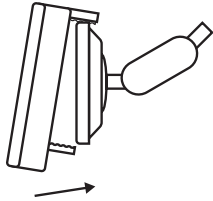

Fig. 1
1. Connect the Rear View Mirror (A) to the Power Cable (D). The black plug on the Power Cable should be inserted into the red jack of the Rear View Mirror, as shown in **Fig. 1**.
2. Connect the Rear View Mirror (A) to the Wireless Receiver (C). The yellow plug on the Wireless Receiver should be inserted into the yellow jack of the Rear View Mirror, as shown in **Fig. 1**.
1. Position the top fixtures on the back of the Mirror against the top of your vehicle's rear view mirror, as shown in **Fig. 1**.